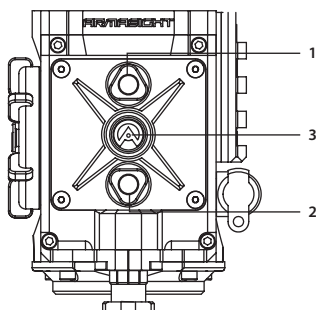

FIGURE 3-7. BUTTON CONTROL PANEL
The Prometheus button control panel is shown in Figure 3-7.
Table 3-2 contains the button functions and their brief descriptions. The ITEM NO. column of the table indicates the number used to identify buttons in Figure 3-7.
To display the MAIN MENU, hold down button (3) on the control panel (Figure 3-7).